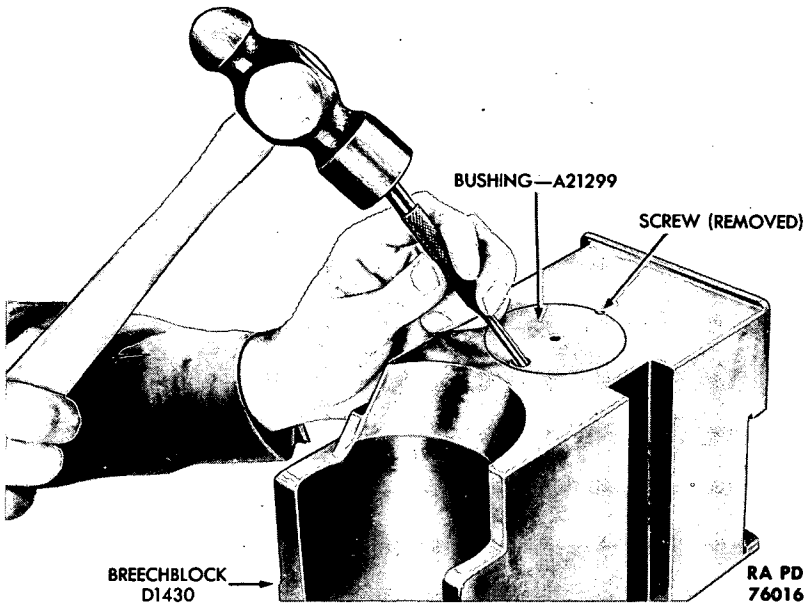

Figure 37—Removing Breechblock Bushing
- (4) Repair other burred or scored parts in same manner as above.
- (5) Replace worn or damaged parts.
- (6) **REPLACE WORN BREECHBLOCK BUSHING** (figs. 37 and 38).